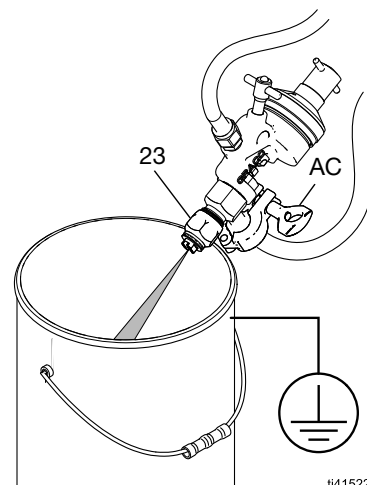

FIG. 6
1. Shut off power to the pump (C).
2. Close the bleed-type air valve (E).
3. Close the fluid shutoff valve (Y).
4. Hold a metal part of the gun firmly to a grounded metal pail. See FIG. 6.
5. Actuate the gun into a grounded metal waste container to relieve pressure. See FIG. 6.
6. Close the bleed-type master air valve (W).
7. Open all fluid drain valves (N) in the system. Have a waste container ready to catch drainage. Leave drain valves open until ready to spray again.
- a. Very slowly loosen the tip retaining nut (23) or the fluid line clamp (AC) to gradually relieve pressure. See FIG. 6.
- b. Remove the tip retaining nut (23) or the fluid line clamp (AC) completely.